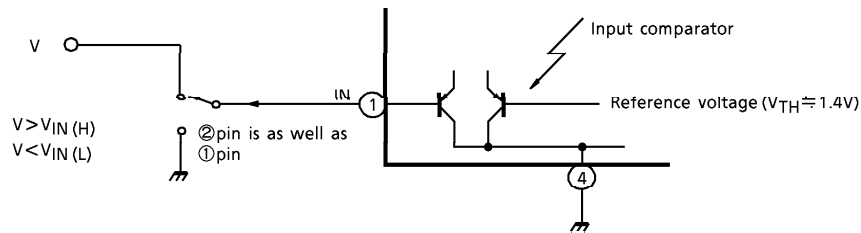

Fig.1
(1) Input circuit
Input circuit is shown in Fig.1. It's a "Low active" type voltage comparator that's one input connect to Input terminal (pin①, or ②) and the other to built-in temperature compensated voltage reference ( $V_{TH} = 1.4V$  Typ.)